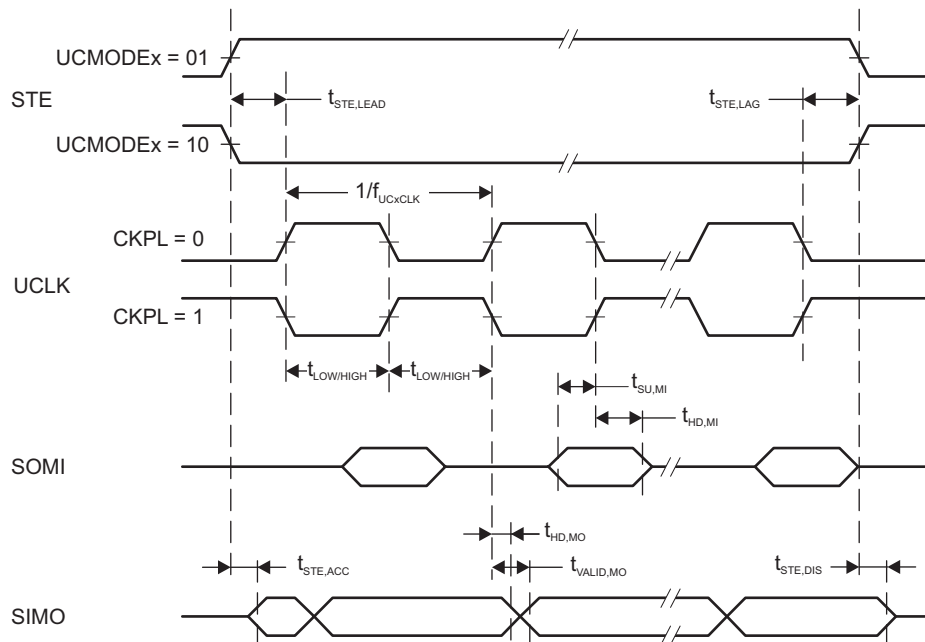
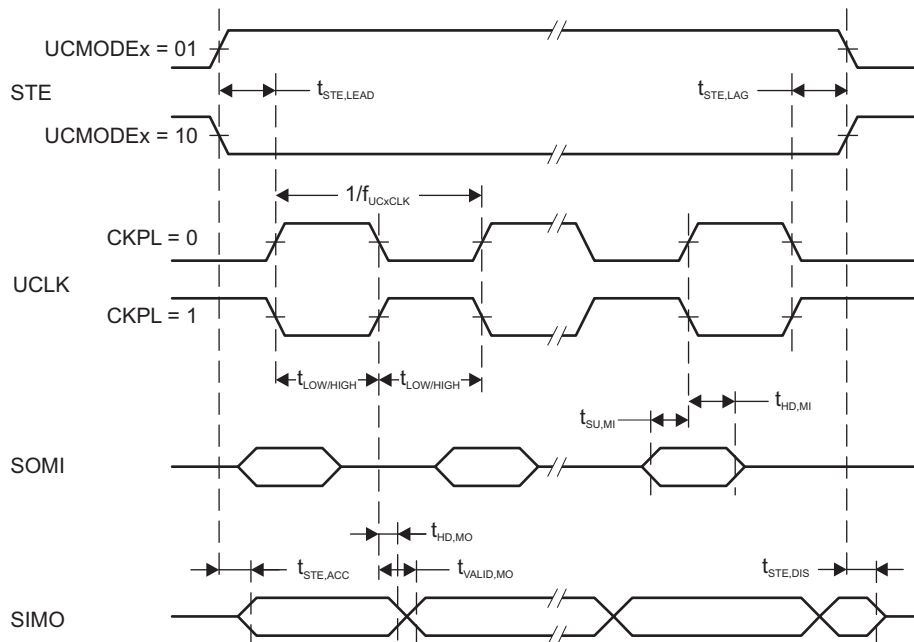

Figure 5-13. SPI Master Mode, CKPH = 0
Figure 5-14. SPI Master Mode, CKPH = 1
(2) Specifies the time to drive the next valid data to the SIMO output after the output changing UCLK clock edge. See the timing diagrams in Figure 5-13 and Figure 5-14.
(3) Specifies how long data on the SIMO output is valid after the output changing UCLK clock edge. Negative values indicate that the data on the SIMO output can become invalid before the output changing clock edge observed on UCLK. See the timing diagrams in Figure 5-13 and Figure 5-14.